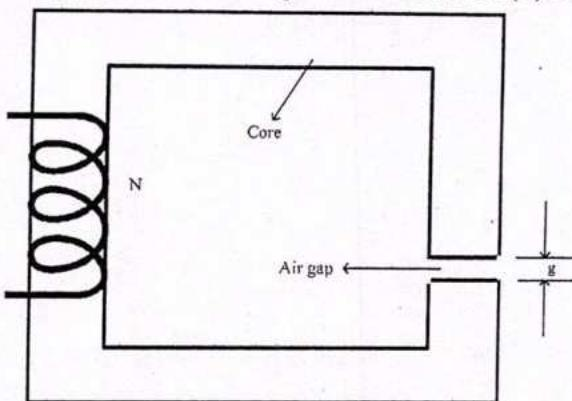

Figure 2
a) A magnetic circuit with a single air gap is shown in Figure 2. The core dimensions are as follows. Core cross-sectional area ( $A_c$ ) =  $1.8 \times 10^{-3} \text{ m}^2$ , mean core length ( $l_c$ ) = 0.6 m, gap length ( $g$ ) =  $2.3 \times 10^{-3} \text{ m}$ ,  $N$  = 83 turns. Assume that the core is of infinite permeability and neglect the effects of the fringing field at the air gap and leakage flux. Calculate (i) the reluctance of the core and (ii) the reluctance of the air gap. For a current of  $I = 1.5 \text{ A}$ , calculate (iii) the total flux, (iv) the flux linkages of the coil, and (v) the coil inductance.